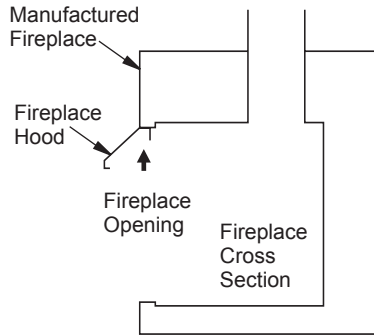

Figure 14 - Screw Placement
3. Hold the hood in place and drill four holes through hood and into channel on the fireplace opening (see Figures 14). Make sure holes are evenly spaced and cover most of the hood's length.